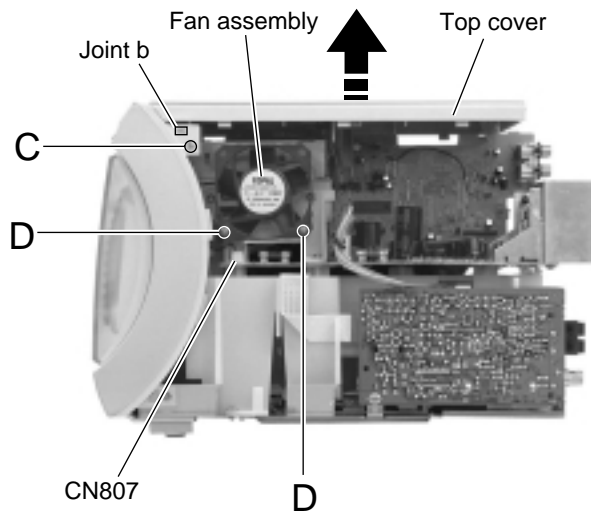

Fig.6
■ **Removing the fan assembly (See Fig.6)**